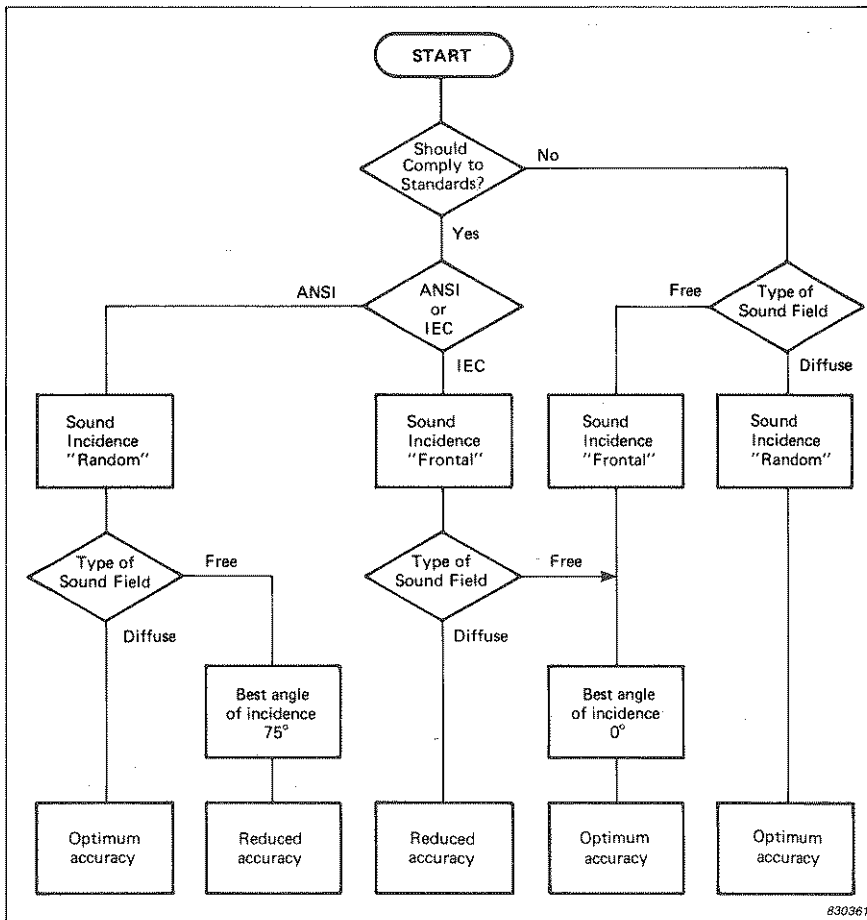

Fig. 2.11. Flow chart to assist in the determination of the Frontal/Random setting
Microphone Type 4155, which is the standard microphone fitted to the 2231 Sound Level Meter, is designed to have a linear free-field response for  $0^\circ$  sound incidence. Using the **Frontal/Random** pushkey the microphone output may be corrected to obtain a linear response under diffuse-field conditions. The procedure for selecting the correct sound incidence correction parameter is given in section 3.12. The correct application of this facility is outlined in Fig. 2.11: the central issue is whether the measurements should be in accordance with IEC or ANSI standards.
1. For each setting of the Frontal/Random parameter there will be certain conditions under which reduced accuracy can be expected, as compared to using the alternative setting. For optimum accuracy, follow the guidelines given in Fig.2.11.